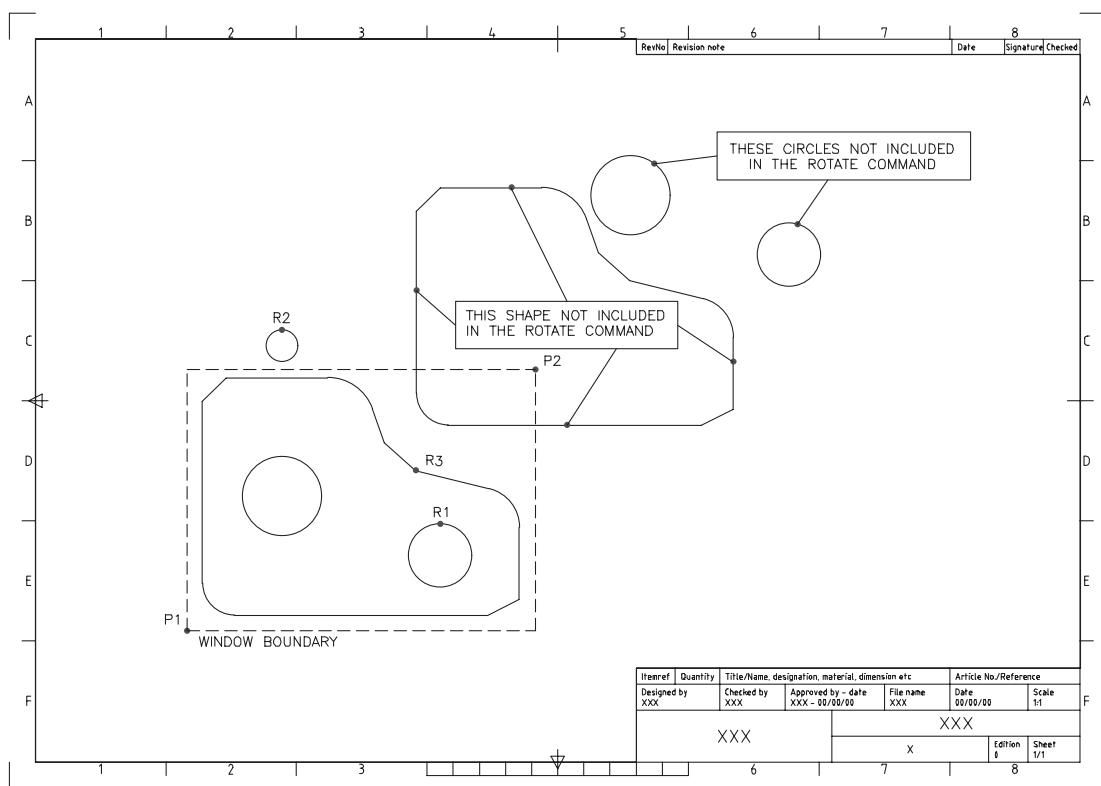

Figure 15.3 WORKDRG after the MOVE command with selection information for ROTATE.
- 5 The result will be Figure 15.3, i.e. the red outline shape is moved, but the two circles do not move due to the Remove option.
- 4 Refer to Figure 15.3 and: